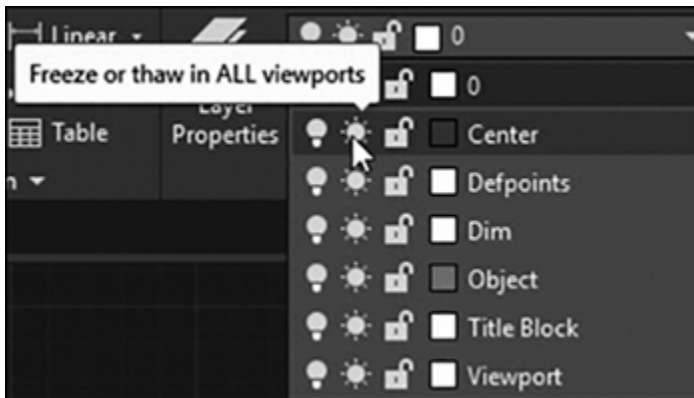

Figure 2-27
- 2 From the **Layer** drop-down list, click on the sun icon next to layer **Center** (see Figure 2-27). The sun icon will change to a snowflake. Now pick anywhere in your drawing to close the **Layer** drop-down list. This **freezes** the **Center** layer and hides it from view.